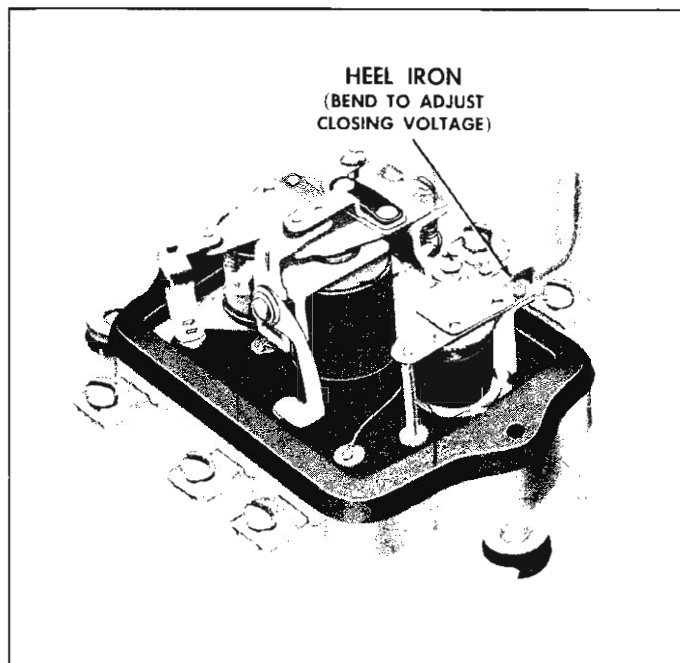

Fig. 10—Adjusting Field Relay Unit
4. Slowly decrease resistance and note closing voltage of relay. Adjust by bending heel iron in manner illustrated in Figure 10.
3. Slowly decrease resistance and note the opening voltage. Adjust by bending the heel iron in the same manner as for the field relay (fig. 10).